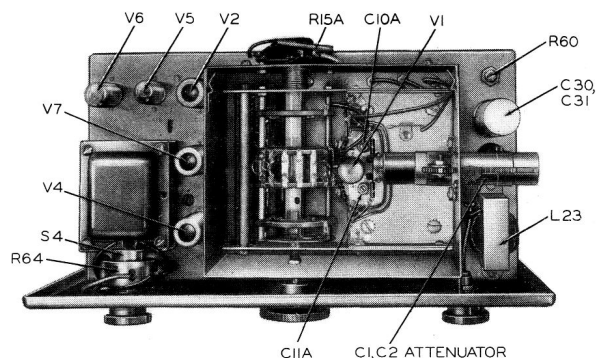

Figure 15. Top View of WR-59C Chassis
10. If the blanking action does not occur at the end of the rectified-rf trace, adjust the blanking phase control R60 (Figure 15) until the output appears as illustrated in Figure 14C on the oscilloscope screen.
3. Back the capacitor plates C10A and C11A (Figure 15) all the way out. C10A and C11A are the two small screws near the stator-plate lips of the modulation capacitor.